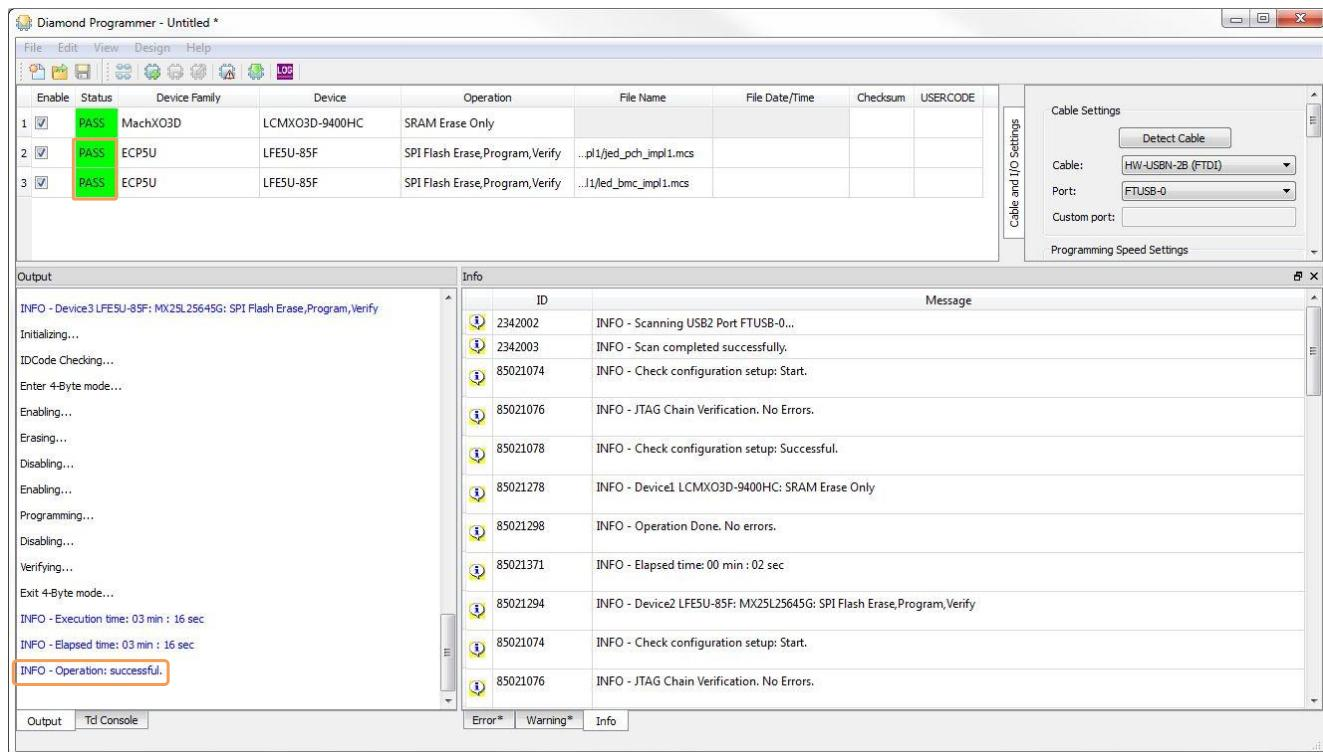

Figure 4.18. Main Configuration Status Output Pane
- To execute program operation, click the **Program** button in the **Toolbar**. Note that the **SPI Flash Background Programming** operation is only possible when either the ECP5 device is erased or the active design has the **MASTER_SPI_PORT** mode enabled. For more details, see ECP5 and ECP5-5G sysCONFIG Usage Guide \(FPGA-TN-02039\). The operation status information is displayed in the **Output** pane (Figure 4.18).